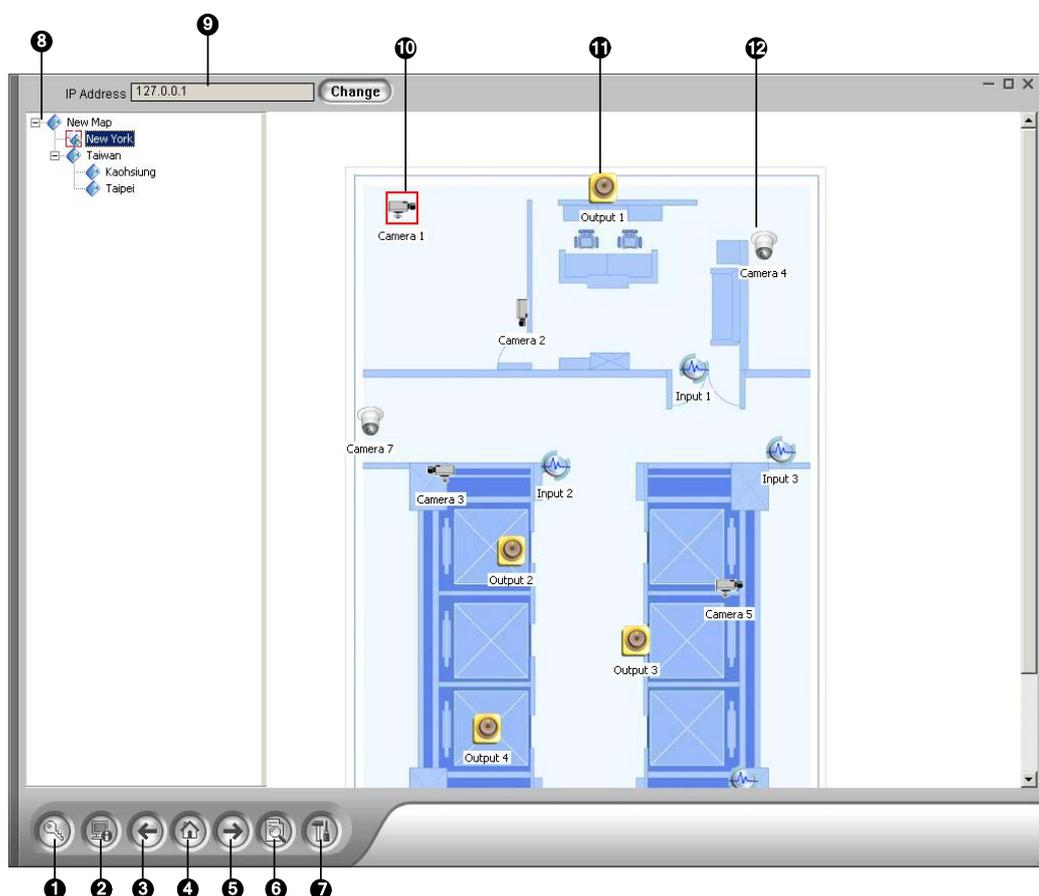

Figure 7-5 The Remote E-Map Window
Click the **Login** button (No. 1, Figure 7-5) to display the following Login window.
Click the **Configure** button (No. 7, Figure 7-5) to display the following dialog box:
The Host Information window lists camera and I/O device trigger information. Click the **Host Information** button (No. 2, Figure 7-5) to display.
On the Remote E-Map window, the **ViewLog** button (No.6, Figure 7-5) is designed for the Remote ViewLog function, giving you remote access to the recorded files of DVR and playing back video by the player ViewLog.
4. Click the **Login** button (No.1, Figure 7-5) to select the desired host(s) to access videos and I/O devices.